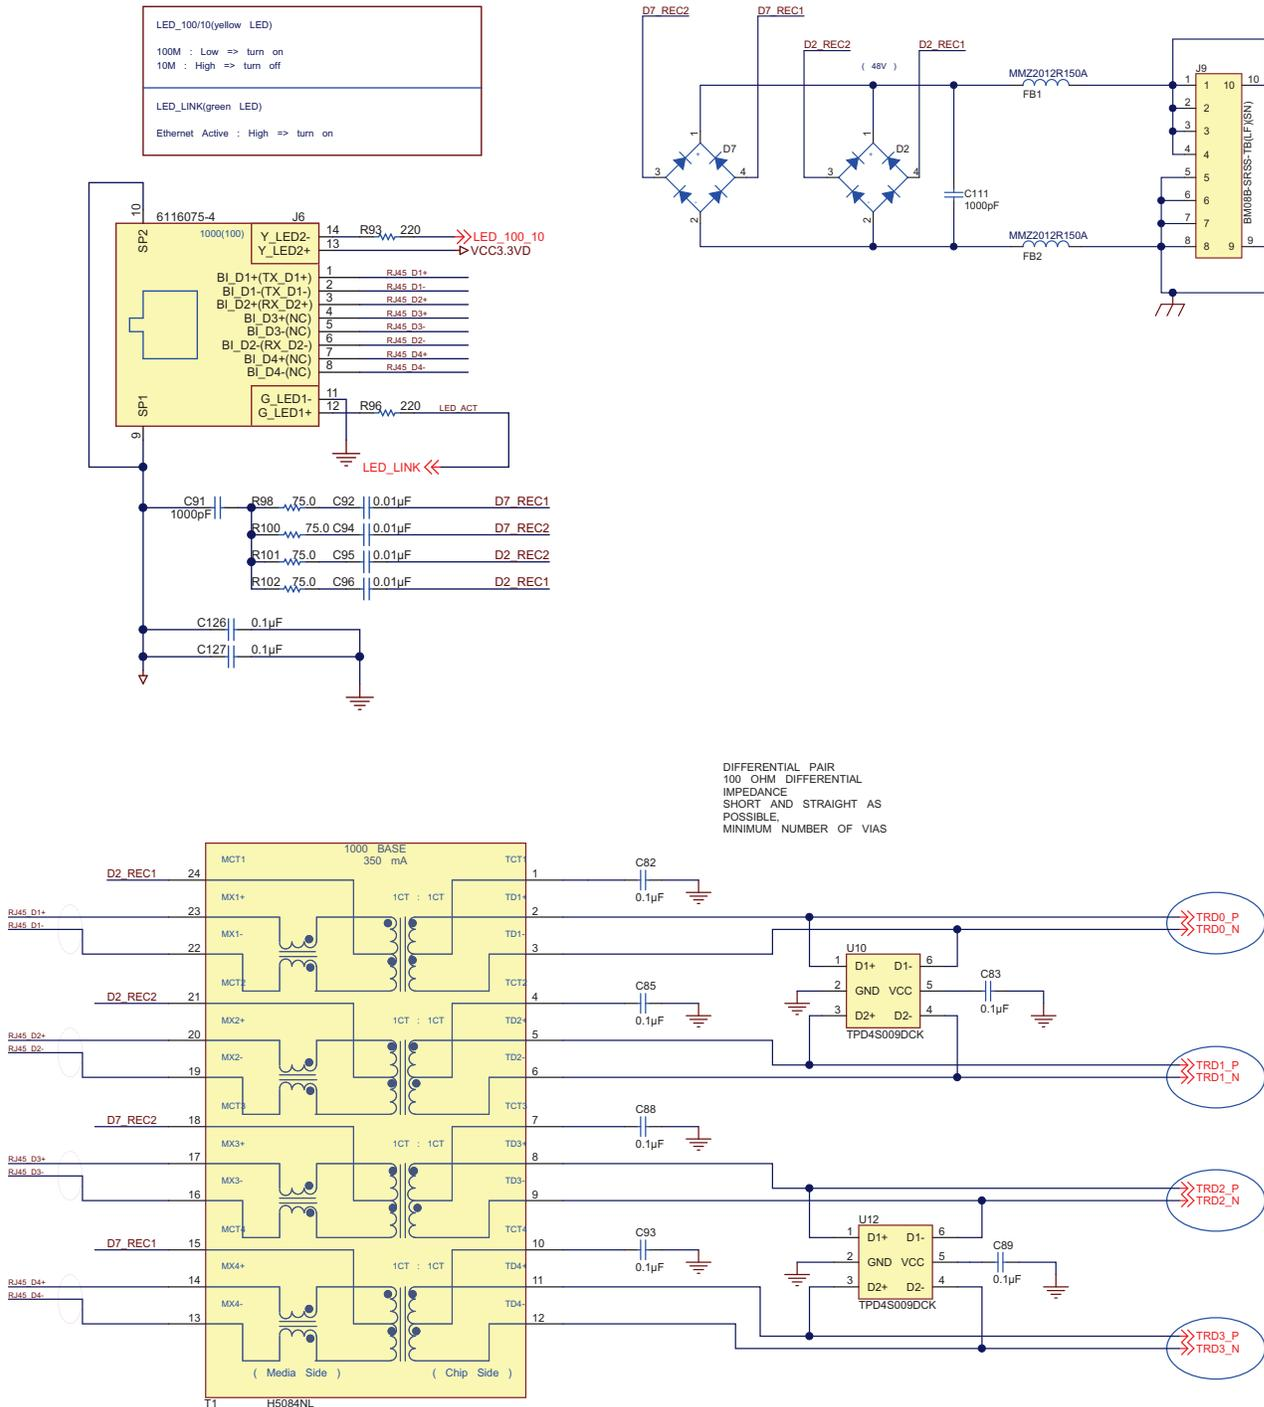

Figure 8. Ethernet Power Input Section of SUB Board
The PoE input is converted to 5 V by a TPS23753 PoE interface and controller. This controller conforms to the IEEE802.3at standard for a type 1, 13-W powered device (PD). The controller provides the PoE detection signature required by the specification. The 5-V output is isolated from the Ethernet input by T3, a Coilcraft PoE13P-50L. A different board in the system supplies the input. This board is called the SUB board (SAT0007) and contains the Ethernet connector and transformers. Figure 8 shows the Ethernet-power input section of the SUB board.